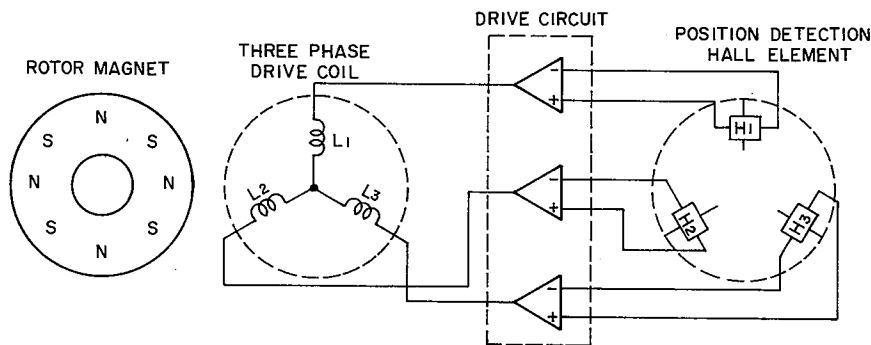

Fig. 11
2) Explanation of the principle of motor operation. As shown in Fig. 11, against the 8 poles of rotor magnet, 3 phase-driven-coils L1, L2 and L3, placed at electrical angle of 120° to each other, are connected to the Hall elements output terminals through their respective drive circuits.